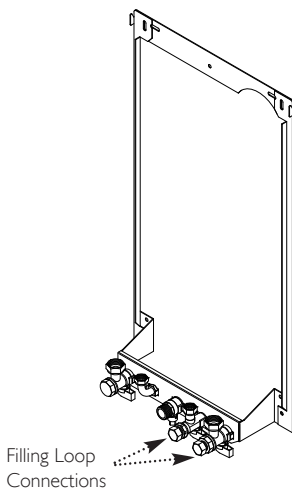

Fig. 5
2. A filling loop is supplied with the boiler in the installation kit. Follow the instructions provided with it to connect to the taps shown in Fig.5.